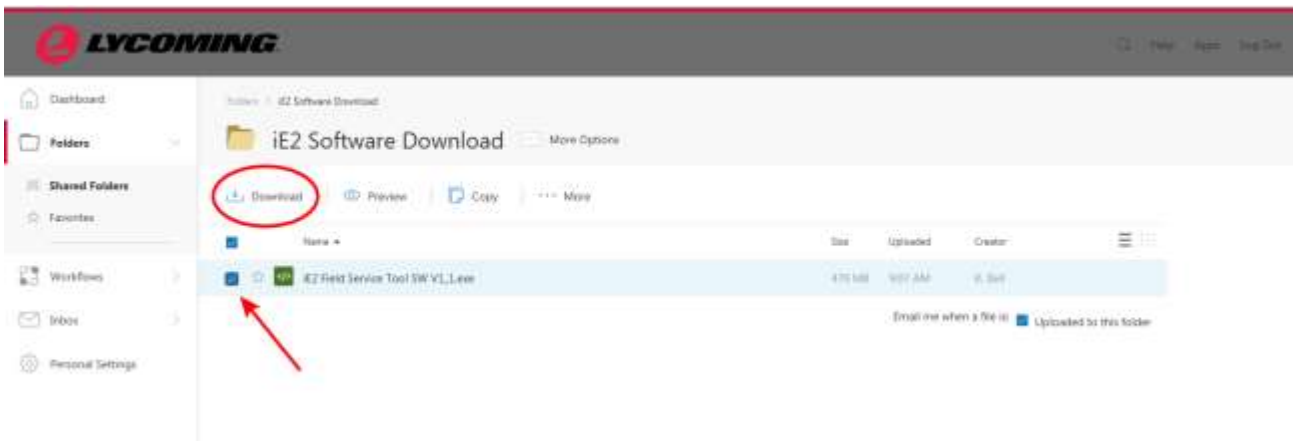

Figure C-11
9. Check the box to the left of the “iE2 Field Service Tool SW” icon then click on the **Download** button (Figure C-11).